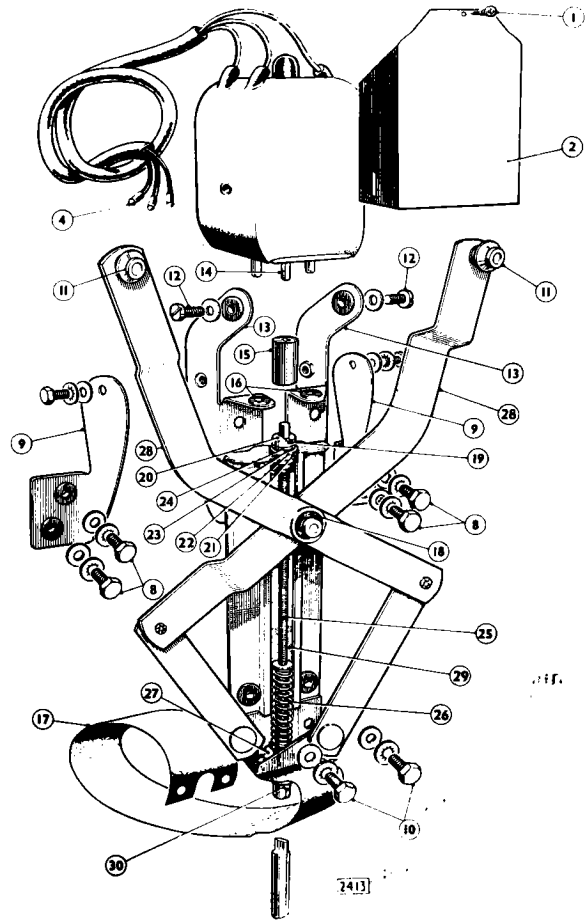

Fig. 68. Exploded view of the window regulator.
Important: To ensure that the slotted bottom of the lifting screw (25), Fig.68, clears the outer door panel and is parallel with the glass, spacing washers are fitted on some doors between the regulator back-plate and the bottom mounting bracket. The position of these must be noted for reassembly.
Remove the two setscrews (12) Fig.68 and plain washers securing the motor to the support brackets. Detach the motor support and raise the motor sufficiently to release the driving shaft (14) from the end coupling (15) and the dowels from the locating holes (16). This will also release the top of the paper oil shield (17) which should be bent downwards out of the way.